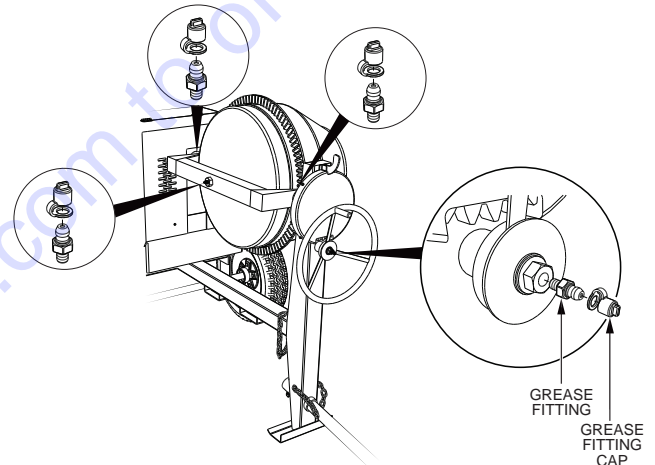

Figure 38. Grease Fittings (Mixer)
1. There are four grease (Figure 38) fittings that will require lubrication. Lubricate these fittings **once a week**. Use lithium base grease, grade NO.1.